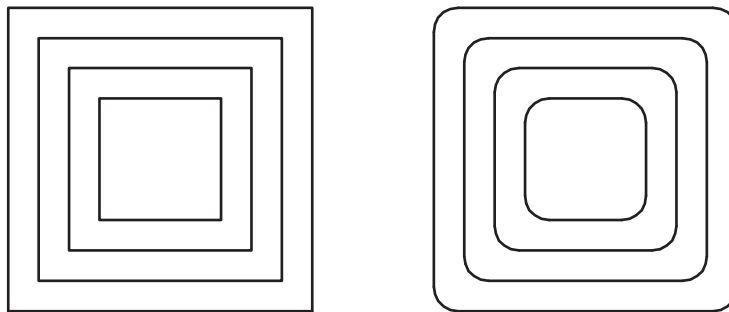

Fig. 16-12
1. Create the first drawing on the left in Fig. 16-12. Don't worry about exact sizes and locations, but do use snap and ortho. Then use **FILLET** to change it to the second drawing. Set the fillet radius at **.2** units.